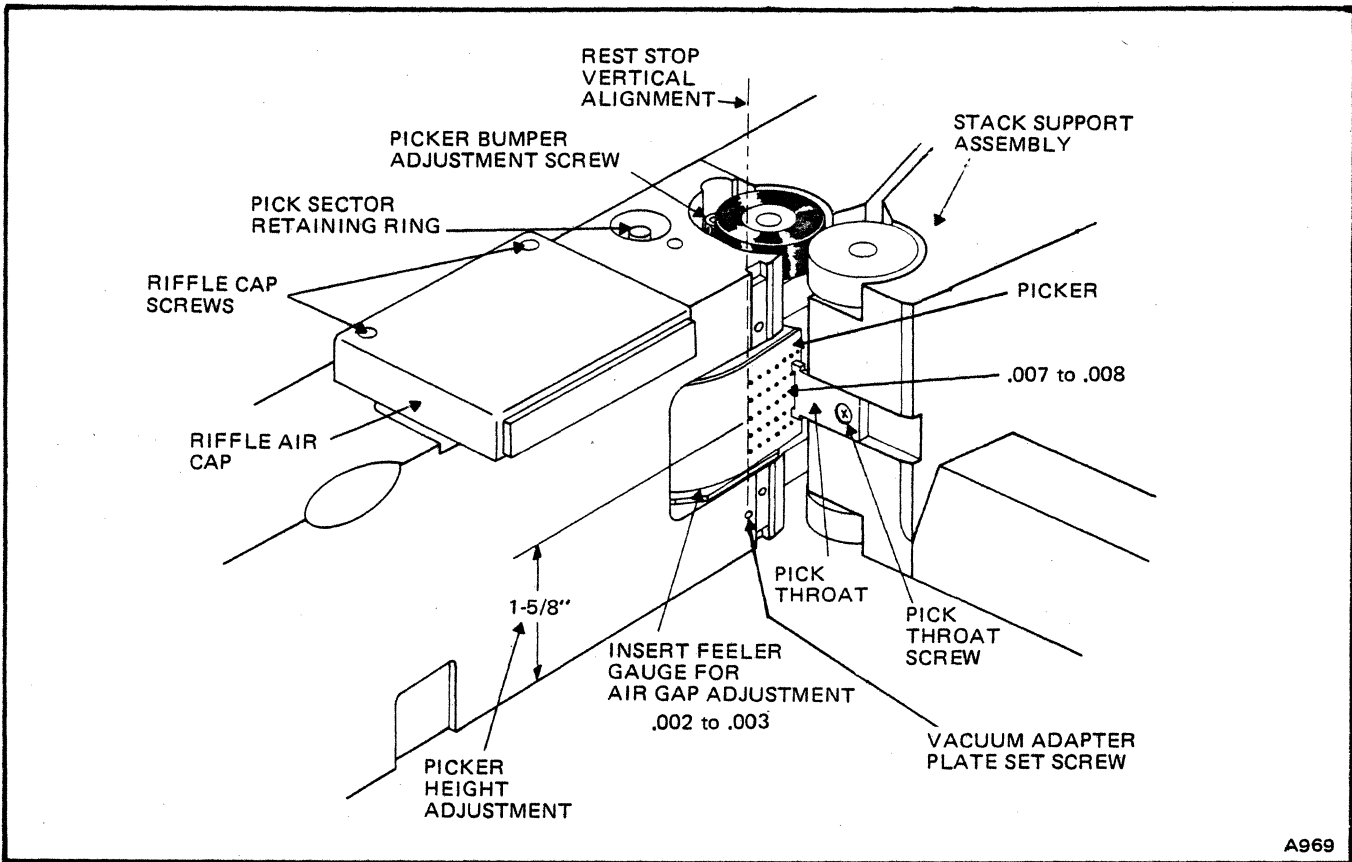

Figure 4-32. Pick Sector, Rear View
- g. Remove pick throat (Figure 4-32).
- a. Check pick sector height adjustment. Distance from top surface of main frame top plate to center of middle row of holes in pick sector should be 1.625 (1-5/8) inches (Figure 4-32).
- f. Loosen vacuum adapter plate set screw (Figure 4-32).
- m. Loosen pick throat screw (Figure 4-32).